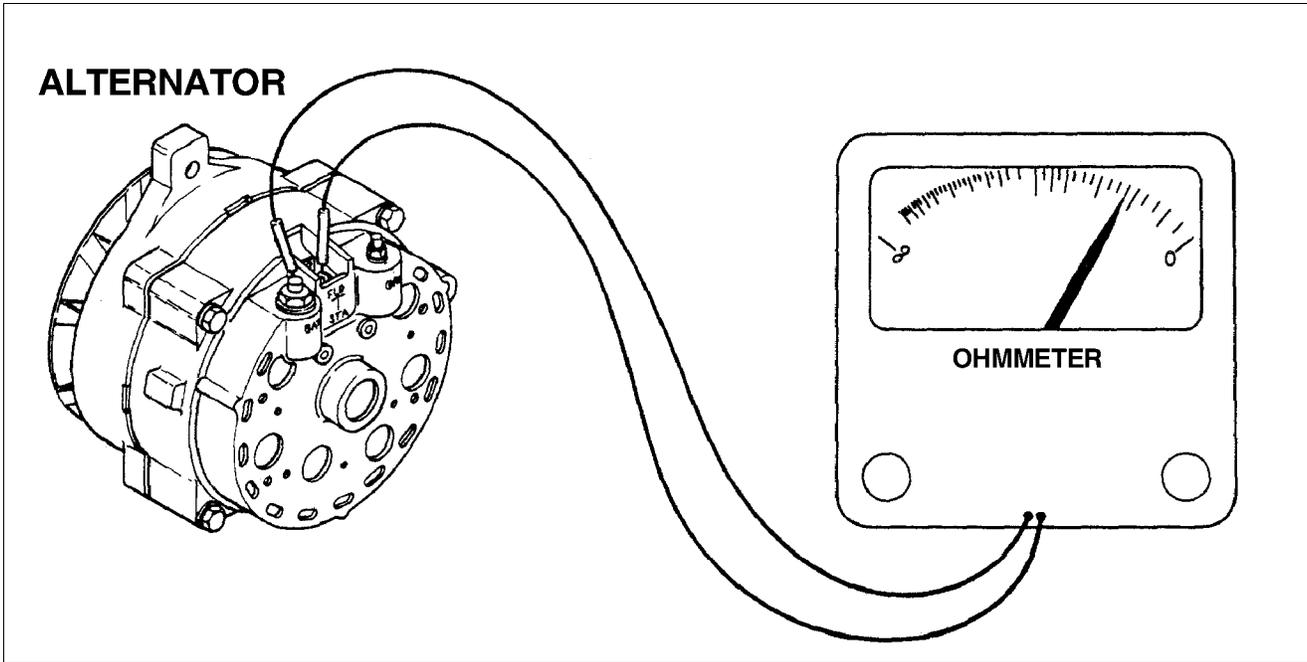

Figure 24-6. Rectifier Ground and Positive Diode Test
a. Rectifier Ground and *Positive* Diode Test (Refer to Figure 24-6)